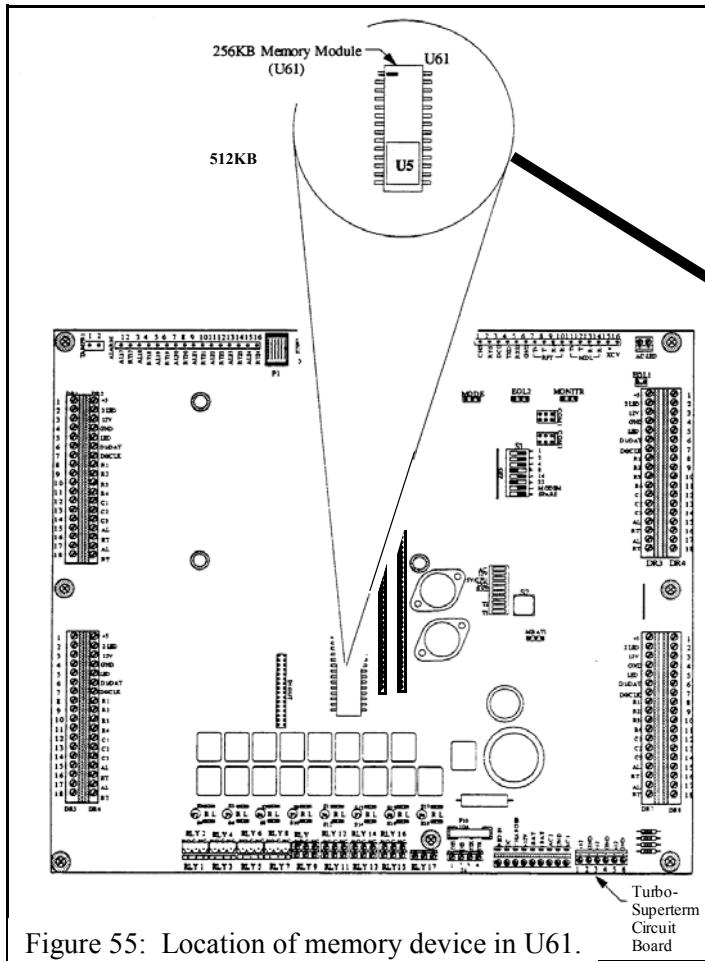

Figure 55: Location of memory device in U61.
5. If installing a second memory card in the left vertical memory socket of the Turbo Superterm boards, you MUST first remove the memory device (chip or module) from location U61 (see Figure 55 and 55a, below). Always use the proper tool to remove the device, such as a DIP removal tool.